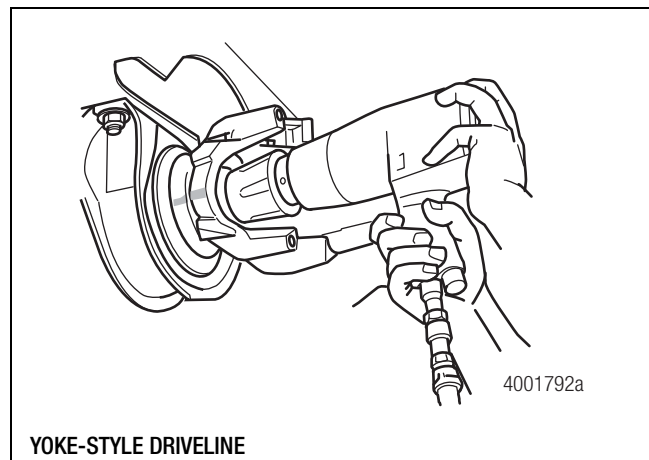
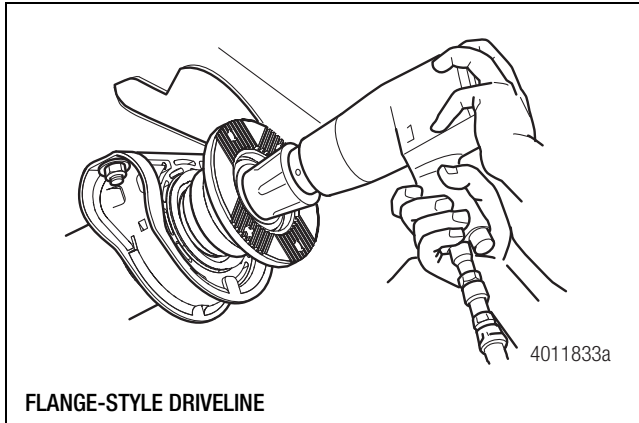

Figure 9.4
Figure 9.5
1. Remove the coupling shaft yoke or flange nut. Discard the nut. Inspect the washer. You can reuse the washer if it's not damaged. Figure 9.4 and Figure 9.5.